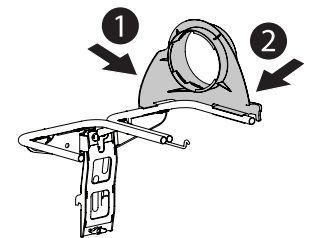

Figure 8
1. Snap the upper chute support (731-17091) in place by first clipping the side portion onto the hanger assembly rail (1), as shown in Figure 8.
2. Snap the front side of the upper chute support to the rail (2), as shown in Figure 8.